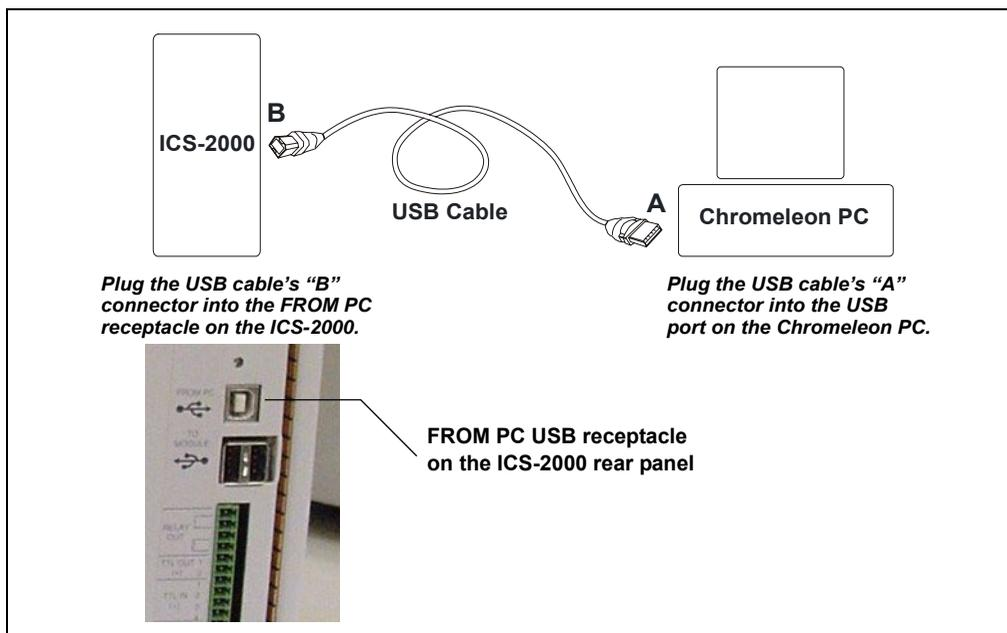

Figure B-7. Example Connections: One ICS-2000 Connected to the Computer
2. Plug the cable's "A" connector into a USB port on the Chromeleon PC and plug the cable's "B" connector into the USB receptacle (labeled **FROM PC**) on the ICS-2000 rear panel (see Figure B-7).